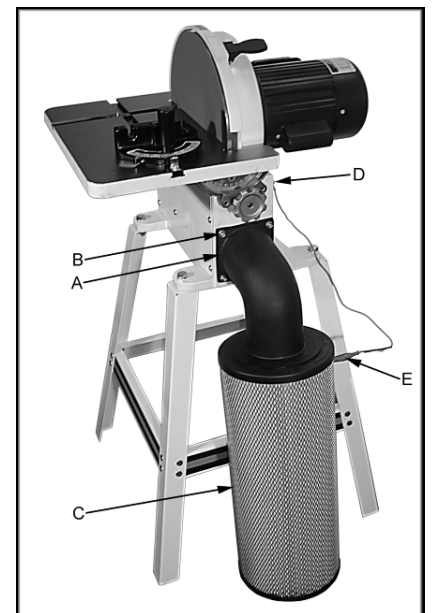

Fig 5
Mount the plastic elbow (A, Fig 5) to the sander using the same hardware (B) from the dust port.
After you have turned "OFF" the sander you can press the brake (B, Fig 5) to stop the sanding disc rapidly.